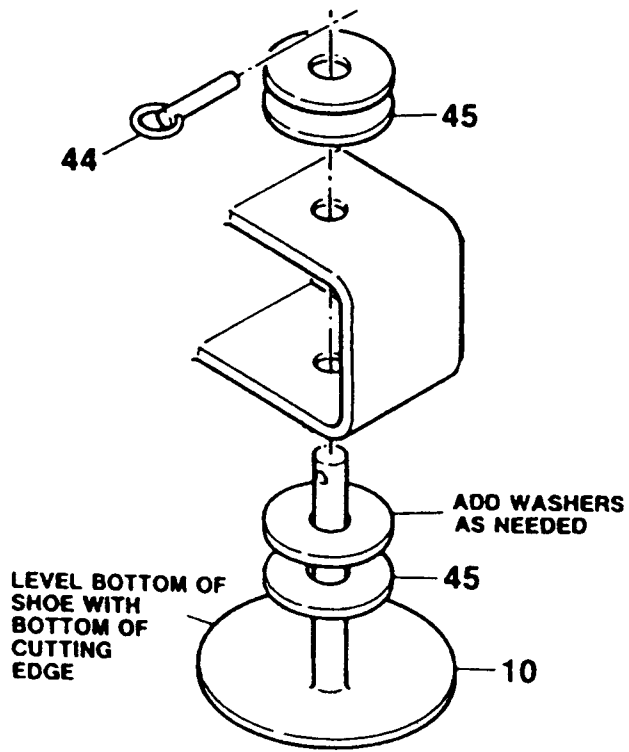

Figure 3
3. Mount the ADJUSTABLE BLADE PLOW SHOE ASSEMBLIES (Ref. No. 10, Fig. 3) on both BLADE ASSEMBLIES, using the 1" FLAT WASHERS (Ref. No. 45, Fig. 3) to achieve the desired blade height and secure with the QUICK PINS (Ref. No. 44, Fig. 3).